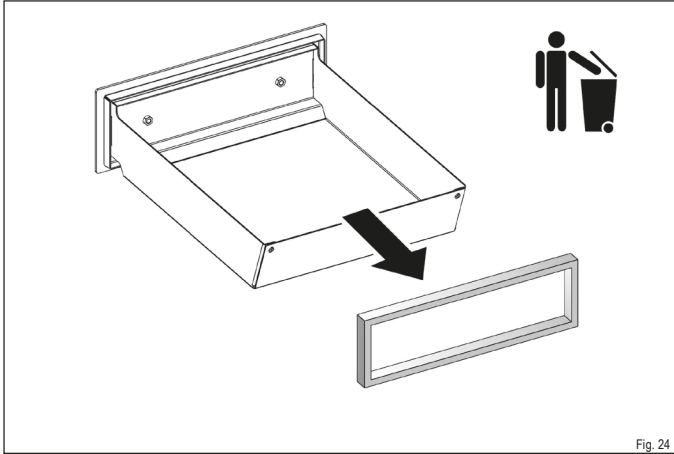

Fig. 24
- ▶ Pull the old seal out of the rail and dispose (Fig. 24).